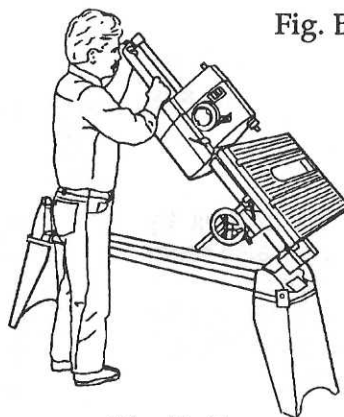

Fig. B-46
6. Tighten the headstock and carriage locks. Place the Mark V in the vertical position by loosening the headrest handle (15), firmly grasping the way tubes (20) near the headrest end, and lifting the tubes into the 90° position, as demonstrated in Fig. B-46.